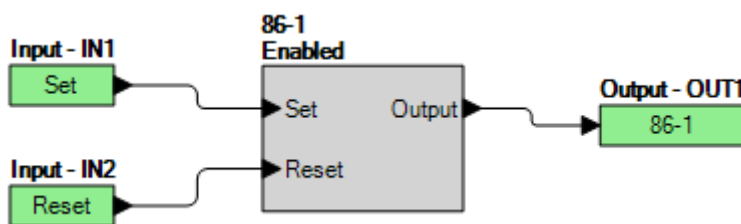

Figure 86-1. BESTlogicPlus Settings
Step 2: Use BESTCOMSPPlus to configure the BESTlogicPlus programmable logic shown in Figure 86-1.